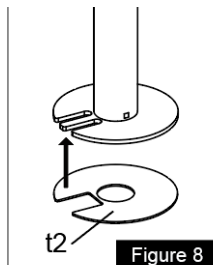

Figure 8
2. Attach Soft Pad (**t2**) to the Grommet Base Plate (**m**), see *Figure 8*.